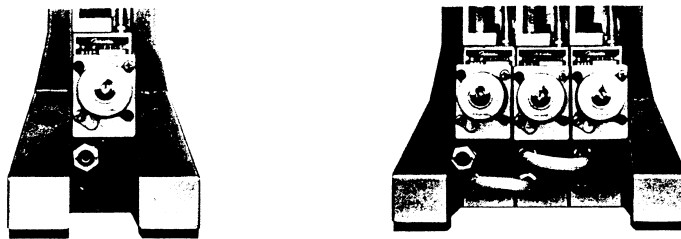

Fig. 11
[Example] In case of assembling a single column system into a 3-column one, join as shown in Fig. 11.
- 5) Thoroughly join the columns provided with vinyl hose joints on both upside and lower side by means of the hexagon bolt and nut as shown in Fig. 11. In this case, use care that the upside and lower side are parallel.
- 7) Firmly tighten the vinyl hose on the rear side in accordance with the 3-column connection as shown in Fig. 11.
- ① Column
- ② Hexagon bolt (M8 x 16)
- ③ Side cover
- ④ Manifold block
- ⑤ Regulator
- ⑥ Vinyl hose
- ⑦ Blind plug
- ⑧ M8 nut (for multiple-column type)